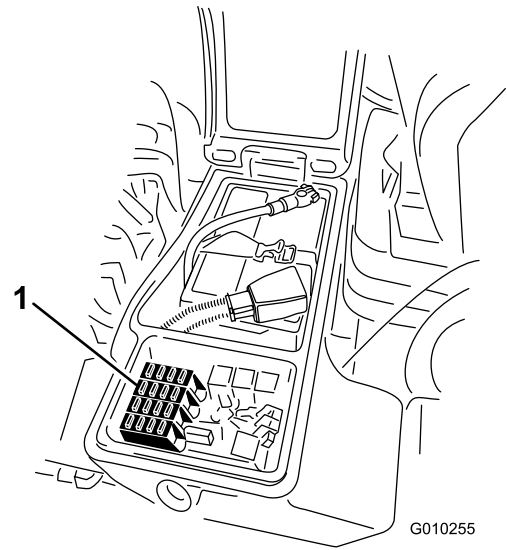
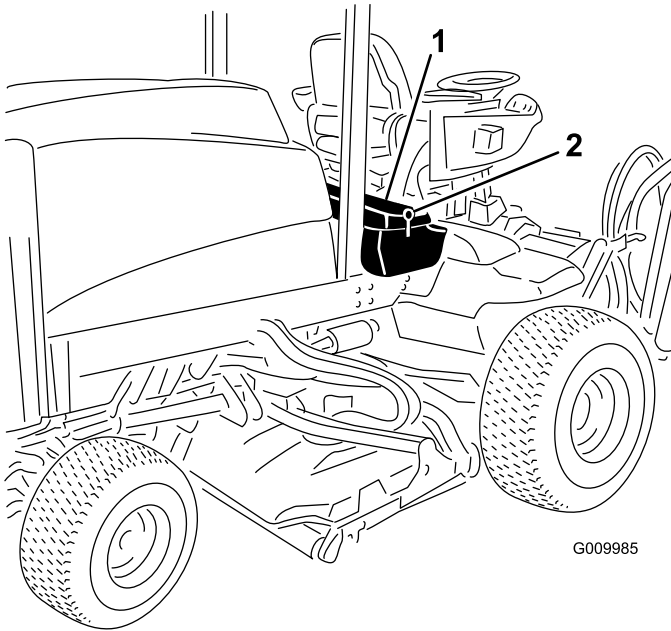

Figure 57
Figure 56
1. Loosen the latch for the cover of the right storage box and raise the cover (Figure 56).
3. Close the cover of the right storage box and secure the cover with the latch (Figure 56).
1. Loosen the latch for the cover of the right storage box and raise the cover (Figure 56) to expose the fuse block (Figure 57).
2. Replace the open fuse(s) as needed (Figure 57).